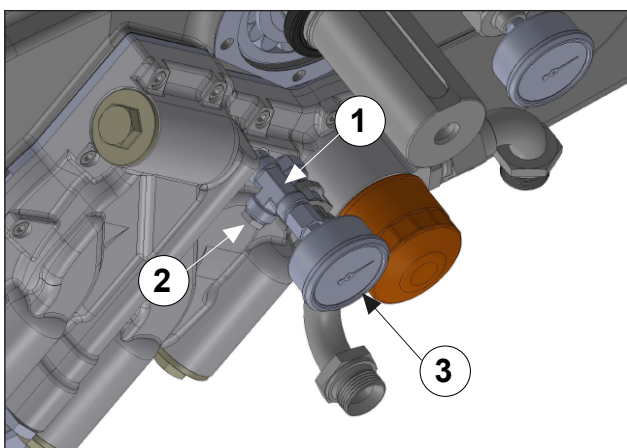

Fig. 134
Use LOX-EAL 53-14 fitting sealant or similar to smear on the Tee fitting (pos. ①), the plug (pos. ②) and the pressure gauge (pos. ③) Fig. 134, then assemble the unit.